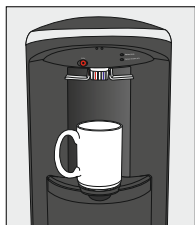

Figure 11
1. Position bottle, glass or other container below water outlet (Figure 11)